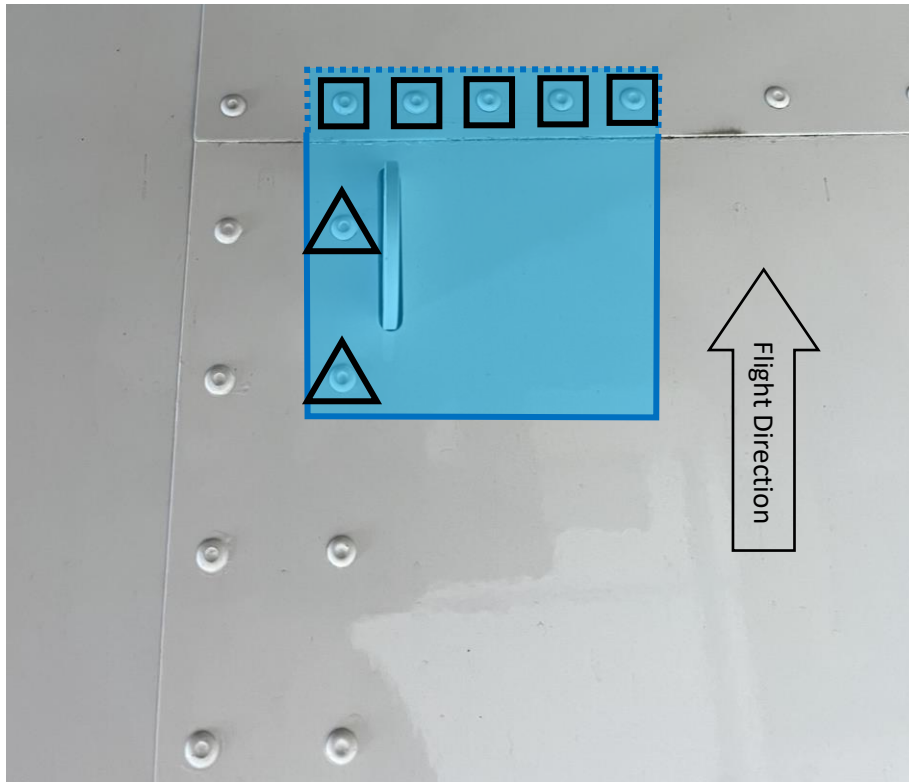
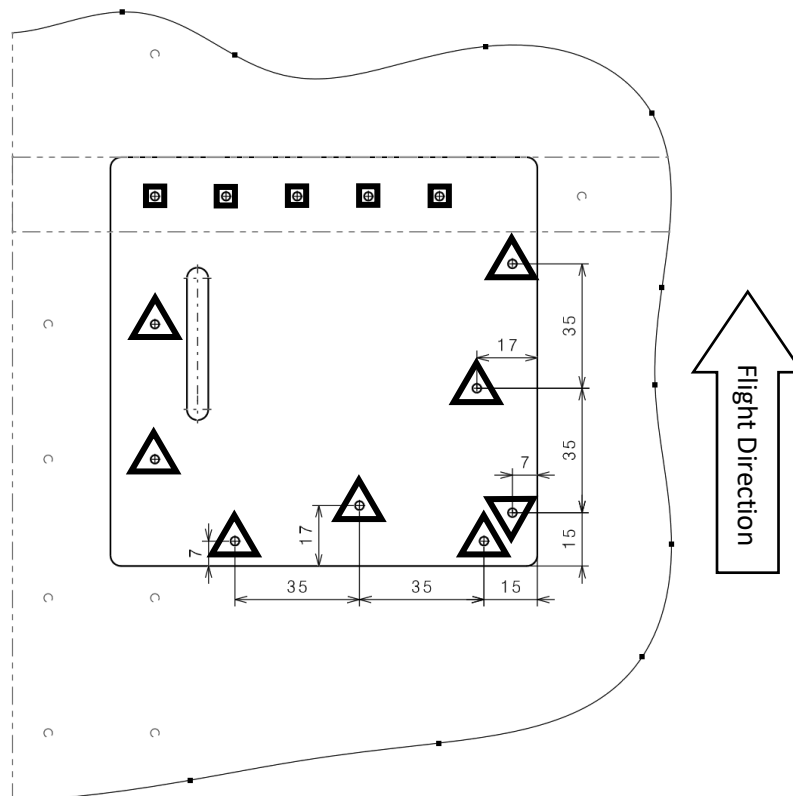

Fig. 3: Tiedown ring with patch
Fig. 4: Typical position of rivets
- 7) Fit the patch (002) to the lower wing skin. Use rivets (005, 006). See Fig. 3 and Fig. 4.